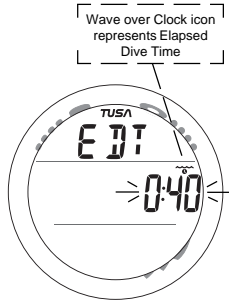

Fig. 39 - SET EDT ALARM
**SET EDT ALARM** information includes (Fig. 39):